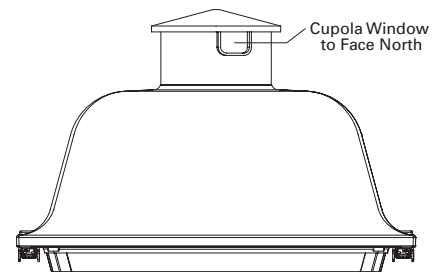

FIG. 5
3. Rotate the cupola until the window in the cupola is facing in a northerly direction. Line up the north arrow of the photocontrol receptacle with the window in the cupola. Retighten the screws and install the photocontrol. (FIG. 5)